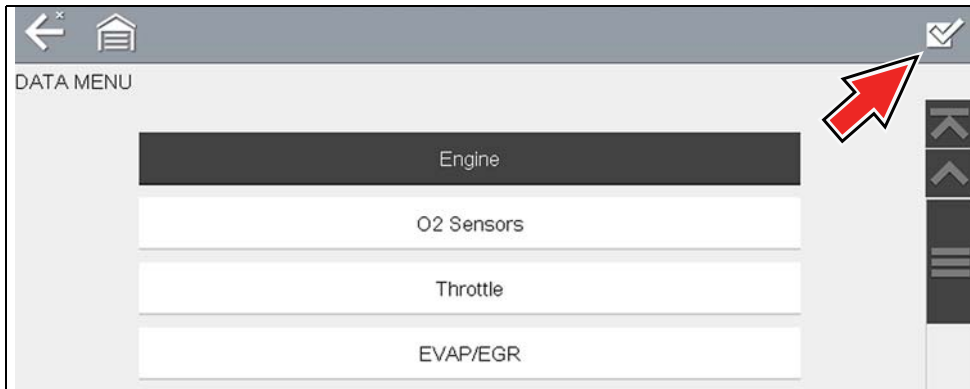

Figure 6-16
1. From the Data Menu select the **Custom List** icon on the toolbar (Figure 6-16). The Custom List icon allows you to start a custom list directly from the Data Menu.